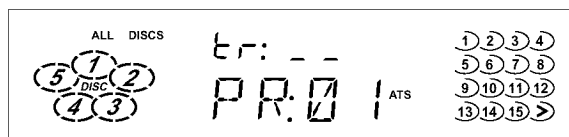

Fig. 3
1. Press **ATS** to activate the feature. The VFD display will be similar Fig. 3 with a flashing disc number and " \_ \_".